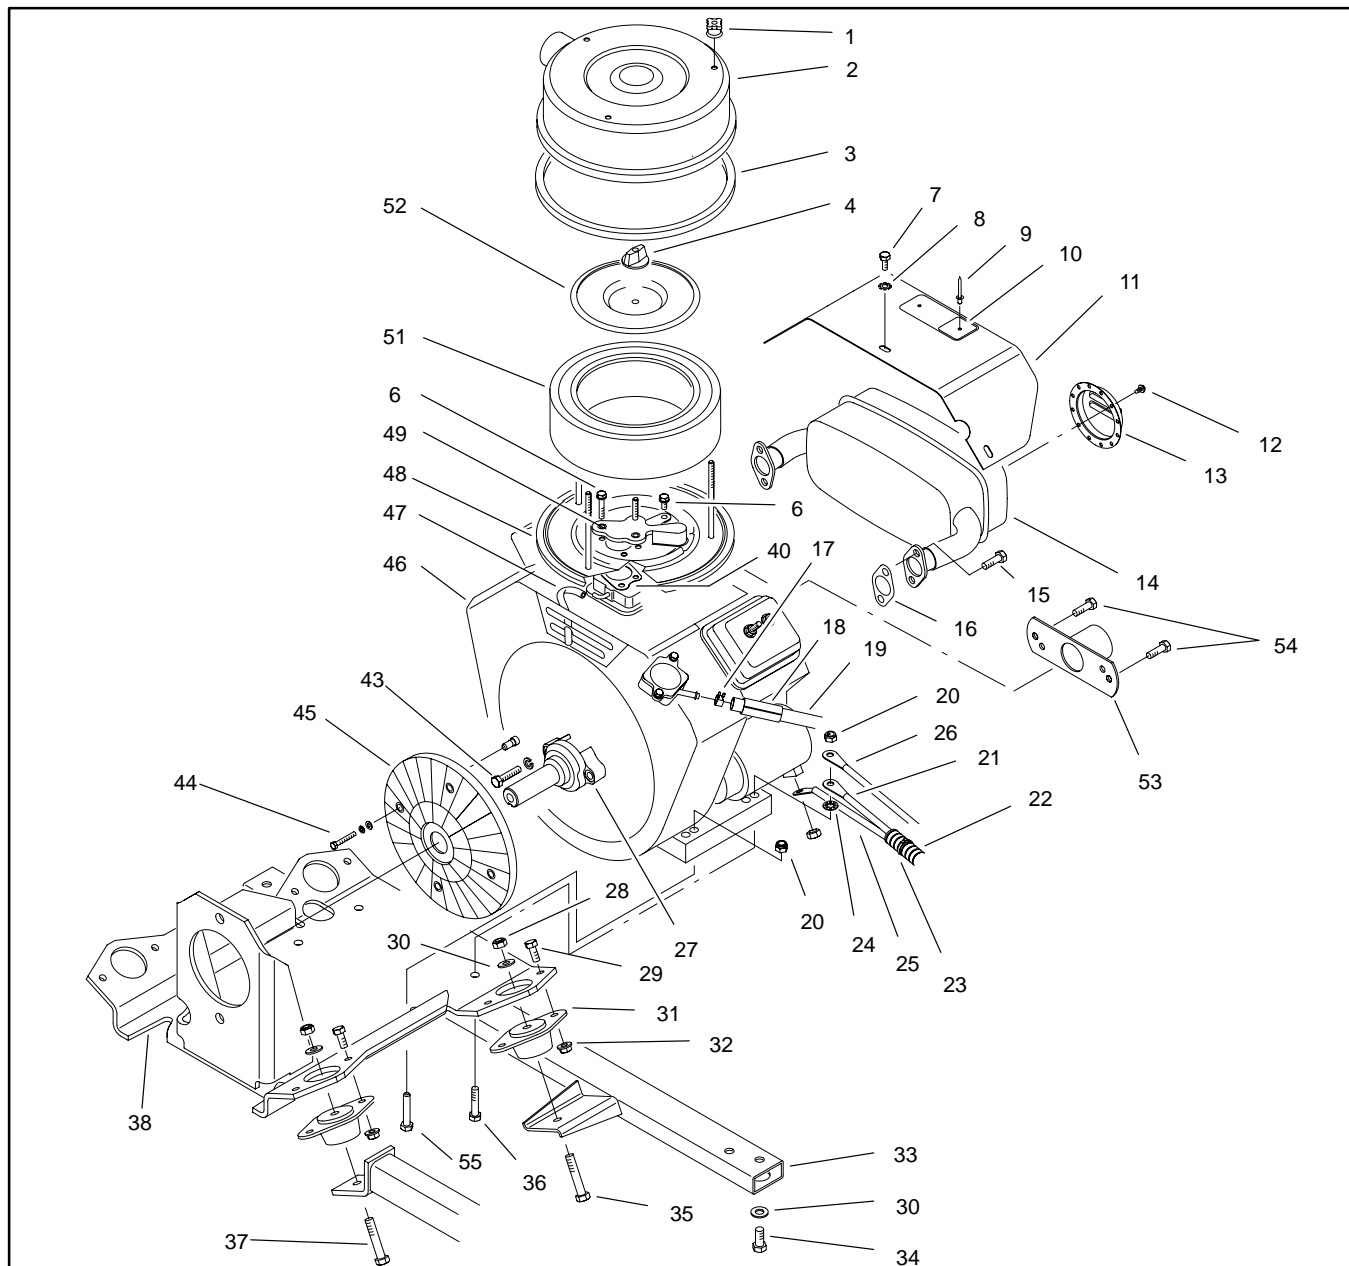

Figure 43
## Engine Removal (Fig. 43)
13. Remove engine as follows (Fig. 43 and 48):
### Engine Installation (Fig. 43)
1. Install engine to its base as follows (Fig. 43 and 48):